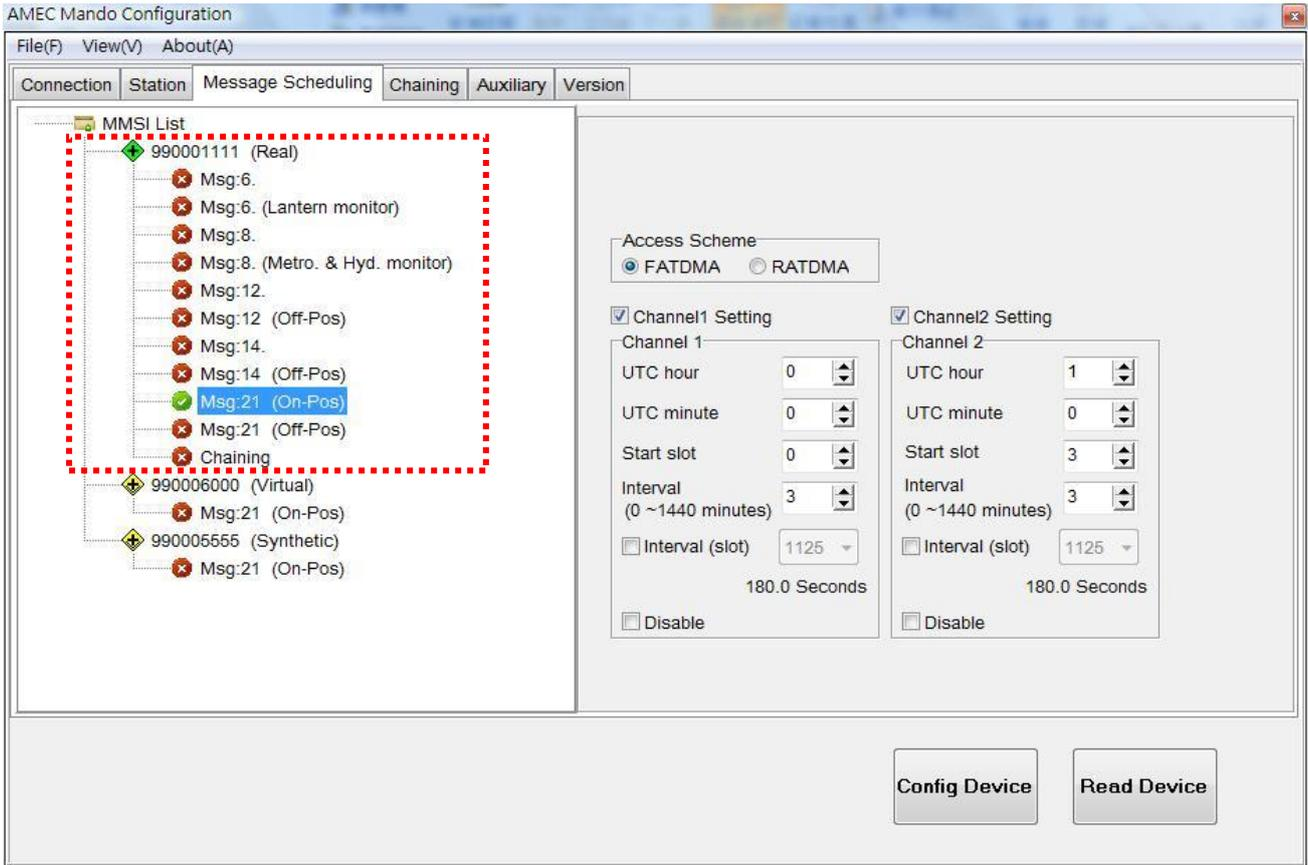

Figure 4-6-2 Message Scheduling
Step 2: For Real AtoN, select the Message ID to be scheduled from the following: Message 6, 6 (Lantern Monitor), 8, 8(Metro. & Hyd. monitor), 12, 14, 21(On-Pos), 21(Off-Pos) and Chaining. Please refer to Figure 4-6-2.